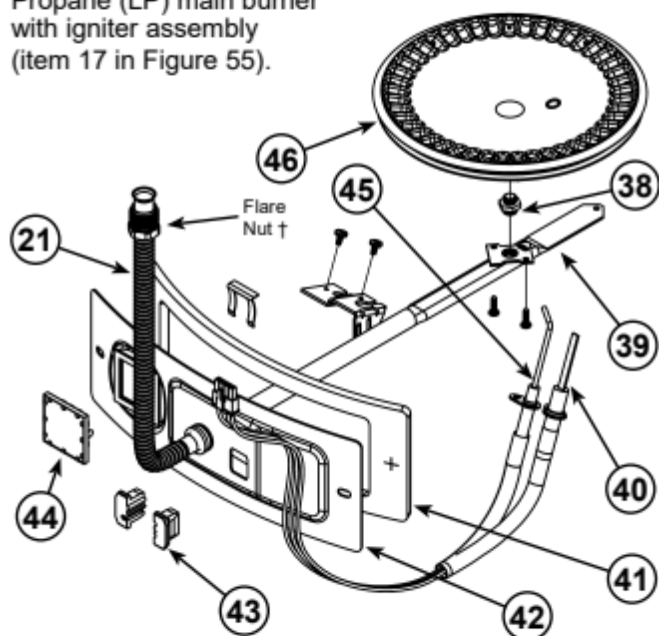

Figure 58.
- 46 Stainless Steel Burner (see Figure 4) (see also Figure 58)